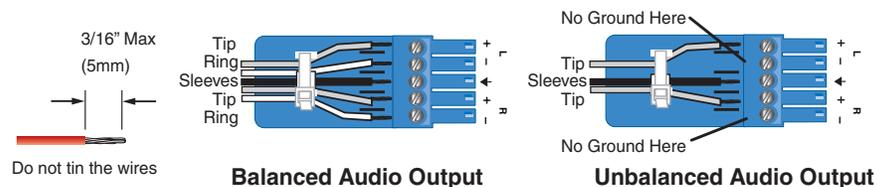

Figure 3. Captive Screw Connector Wiring for Audio Output
- G Analog audio outputs** — Connect audio devices, such as an audio amplifier or powered speakers, to these 3.5 mm, 5-pole captive screw connectors. The connectors output the selected unamplified, line level audio de-embedded from the HDMI, SDI, and DisplayPort inputs (see figure 3 to properly wire an output connector). Use the supplied tie-wrap to strap the audio cable to the extended tail of the connector.